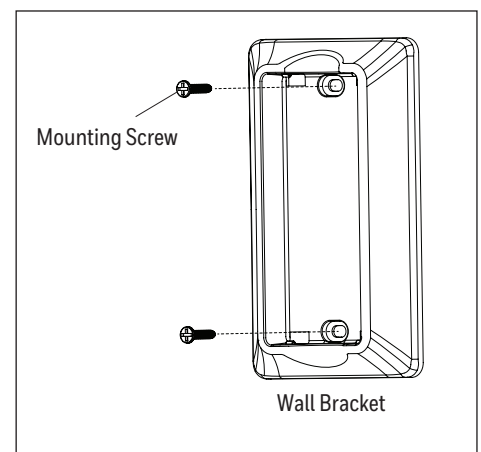

Figure 5.9
- If desired, the wall bracket in remote pack can be installed to a wall using the provided mounting screws. The remote can be stored in the mounting bracket for easy access (Figure 5.9).